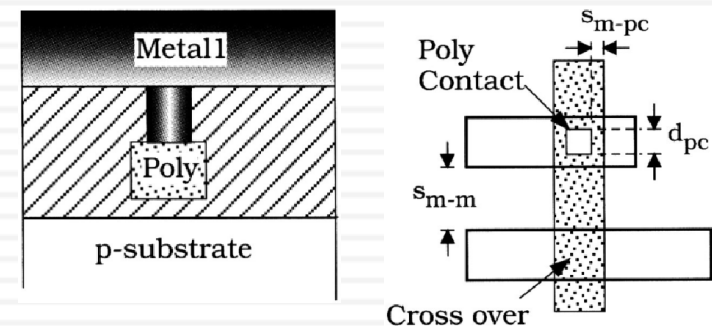

Figure 5.16 Poly Contact
- ❑ A Poly Contact mask is used to allow electrical connections between Metall and the polysilicon gate as Figure 5.16